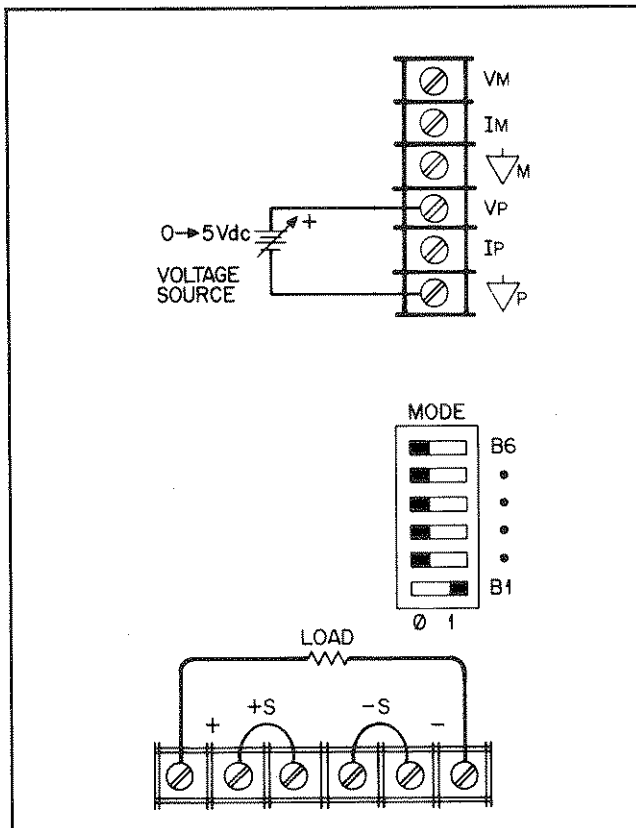

Figure 3-10. Voltage Programming of Output Voltage
**3-204 Constant Voltage Output, Voltage Control.** The setup shown in Figure 3-10 allows the output voltage to be varied by using an external voltage source to program the supply. A voltage source variable from 0 to +5 volts produces a proportional output voltage from zero to full scale. The static load on the programming voltage source is less than  $5\mu\text{A}$ . A source resistance of less than 10 k is necessary to avoid degradation of offset and drift specifications.